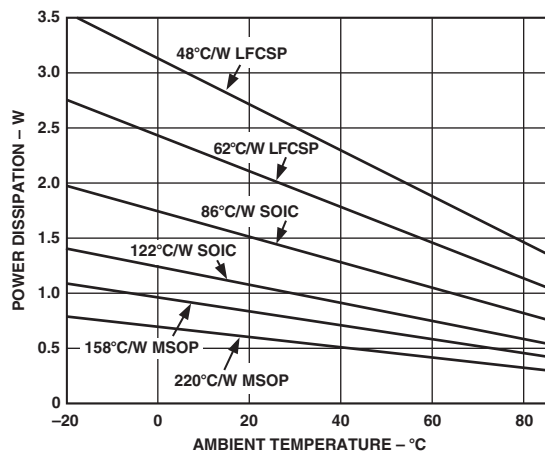

Figure 5. Power Derating Curve
The maximum power dissipation versus ambient temperature for each package is shown in Figure 5.
2. The thermal pad of the LFCSP package provides a low thermal impedance path (approximately  $20^{\circ}\text{C}/\text{W}$ ) to the PCB. Therefore the PCB must be properly designed to effectively conduct the heat away from the package. This is achieved by adding thermal vias to the PCB, which provide a thermal path to the inner or bottom layers. See Figure 5 for the recommended via pattern. Note that the via diameter is small to prevent the solder from flowing through the via and leaving voids in the thermal pad solder joint.